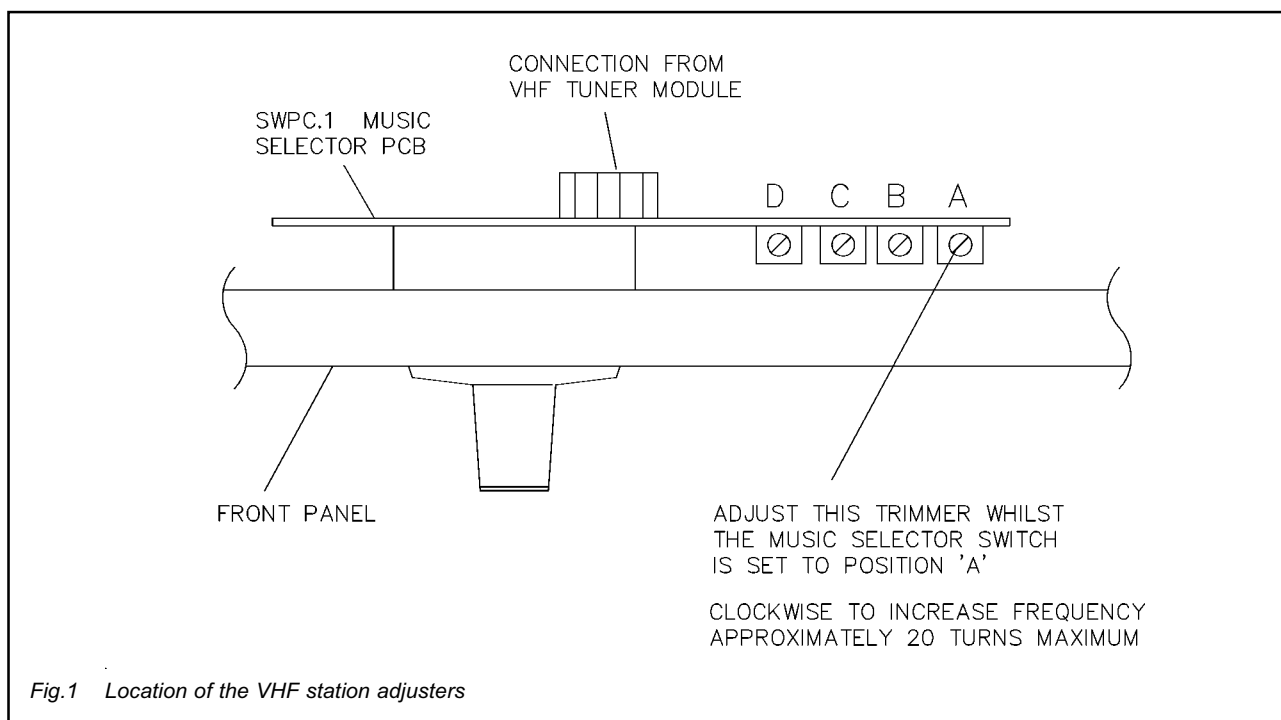

Fig.1 Location of the VHF station adjusters
The AM and VHF modules described above are inserted into module positions 5 and 6 respectively, and antenna signals from the rear coaxial socket are routed via a splitter PCB to these dedicated positions. The AM module is crystal controlled and therefore has no adjustments for frequency. The VHF module, in conjunction with the front panel music selector switch can provide up to 4 programs. To tune into a station, set the selector switch to position A and adjust the corresponding helical pre-set resistor on the selector PCB, until the required station is located. This multi-turn adjuster is mounted on the extreme right of the PCB on which the selector switch is mounted, inside the amplifier. See Fig.1 Adjustment is clockwise to increase frequency up to 108MHz and anti-clockwise to lower frequency to 88MHz. Repeat this process for each switch position.
- d) The four VHF stations selectable by the front switch are tuned-in on installation by adjustment of the corresponding pre-sets on SWPC.1. See Fig.1 and APPENDIX D for identification.